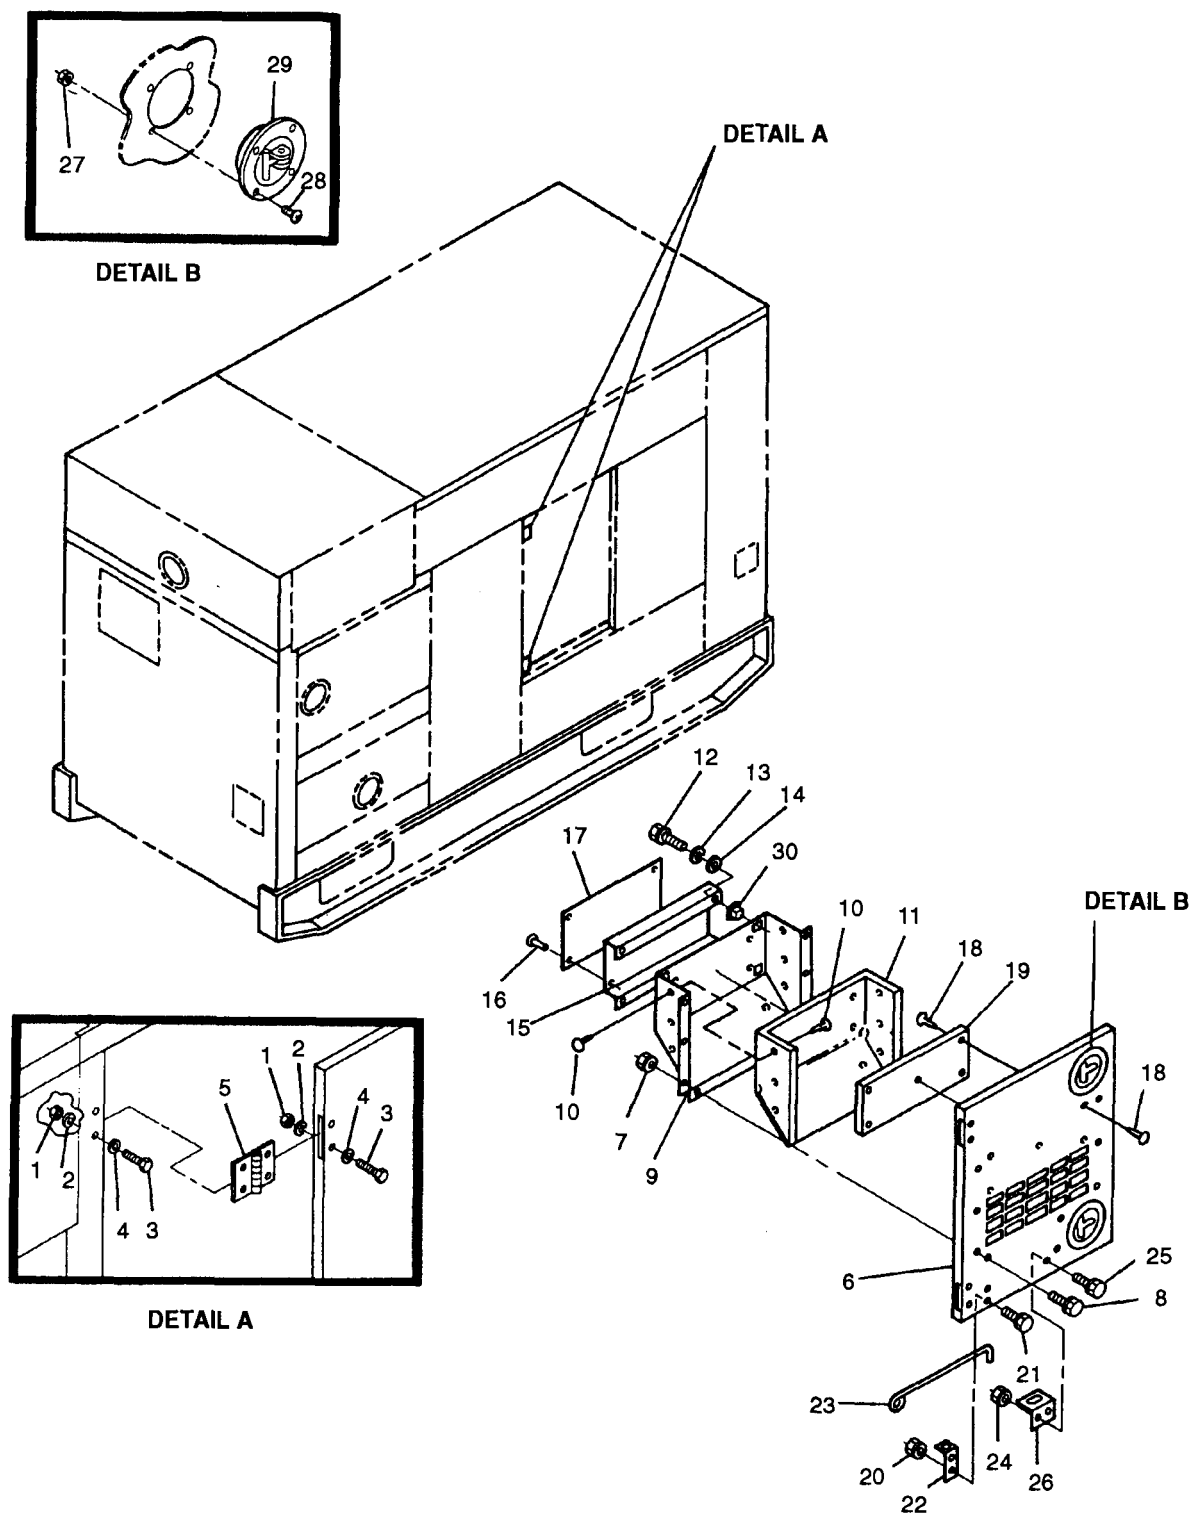

FIGURE 2-5. Generator Set Access Doors
- c. Remove nuts (1, FIGURE 2-5), lockwashers (2), bolts (3), washers (4), and hinges (5).
- d. Remove right rear engine access door (6) from generator set.
- e. Remove assembled nuts (7), bolts (8), and air baffle (9) from engine access door (6).
- f. Remove clip halves (10) and insulation (11) from air baffle (9).
- g. Remove bolts (12), lockwashers (13), washers (14), and bracket (15) from air baffle (9).
- h. Drill out pop rivets (16) and remove wiring diagram (17) from bracket (15).
- i. Remove clip halves (18) and insulation (19) from engine access door (6).
- j. Remove assembled nuts (20), bolts (21), bracket (22), and holding rod (23) from engine access door (6).
- k. Remove assembled nuts (24), bolts (25), and bracket (26) from engine access door (6).
- l. Remove assembled nuts (27), screws (28), and latches (29) from engine access door (6).
- c. Repaint surfaces in accordance with TM 43-0139. (F) Use applicable directives.
- g. Replace damaged or missing cage nuts (30, FIGURE 2-5).
- a. Install latches (29, FIGURE 2-5) in right rear engine access door (6) with screws (28) and assembled nuts (27).
- b. Install bracket (26) on engine access door (6) with bolts (25) and assembled nuts (24).
- c. Install bracket (22) and holding rod (23) on engine access door (6) with bolts (21) and assembled nuts (20).
- d. Install insulation (19) on engine access door (6) with clip halves (18).
- e. Install wiring diagram (17) on bracket (15) with pop rivets (16).
- f. Install bracket (15) on air baffle (9) with bolts (12), lockwashers (13), and washers (14).
- g. Install insulation (11) on air baffle (9) with clip halves (10).
- h. Install air baffle (9) on engine access door (6) with bolts (8) and assembled nuts (7).
- i. Install right rear engine access door (6) and hinges (5) on generator set with bolts (3), washers (4), lockwashers (2), and nuts (1).